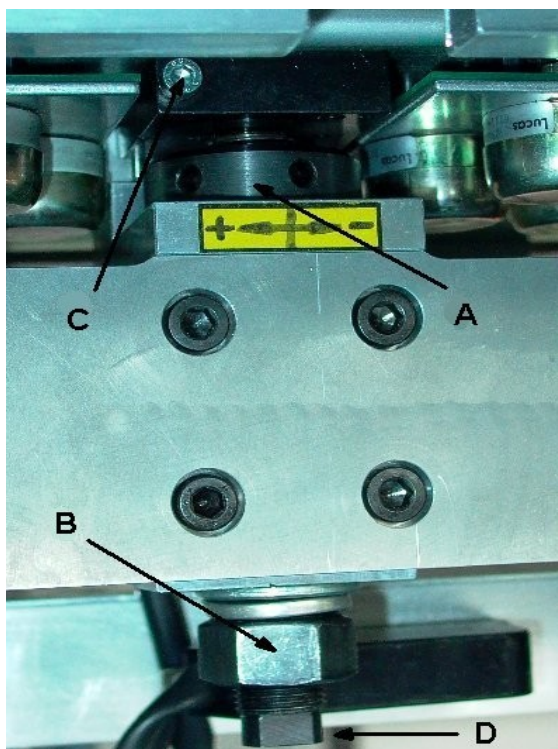

Fig. 2.4
- Install the embossing head in the Puma vice versa as described at Fig. 2.4.
- Loosen Hex Nut 'B' until you can turn it by hand. (See Fig. 2.4)